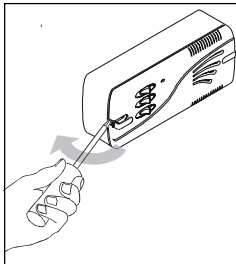

Fig. 2a: Removing screw covers
- 1 Detach the Fascia from the Mounting Frame by removing the screw covers and two screws (Refer to Fig. 2a&b).